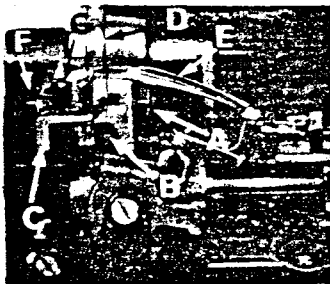

Fig. 9
Set the rear needle guard (C, Fig. 9) horizontally so that it does not quite contact the rear of the right needle (D) when at its most forward point of travel. A clearance of .005 inch is permissible. It should be set as low as possible, yet have its vertical face approach within about 3/64 inch of the needle, until the point of the looper (E), moving to the left, is even with the needle. To move needle guard forward or backward, merely loosen screw (F), move needle guard as required, and retighten screw. To raise or lower needle guard, loosen screw (F), and turn screw (G) clockwise to lower needle guard and counterclockwise to raise it. Retighten screw (F) after guard is properly set.